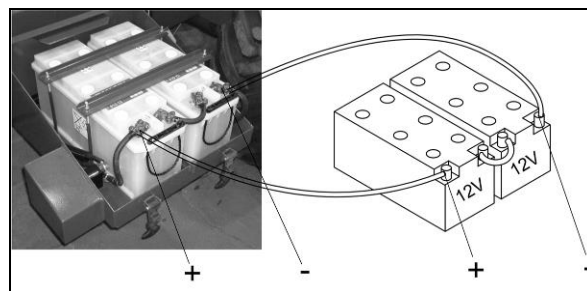

Fig. 108
1. Connect a plus pole (+) and a minus pole (–) of the two jumper batteries with each other to produce the required voltage of 24 V (Fig. 108)